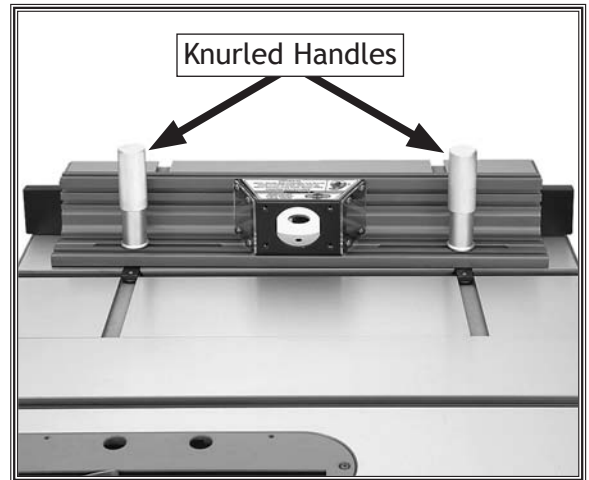

Figure 12. Fence knurled handles installed.
10. Place the fence assembly over the studs of the T-slot bars, then secure the fence in place by threading the knurled handles onto the studs, as shown in **Figure 12**.